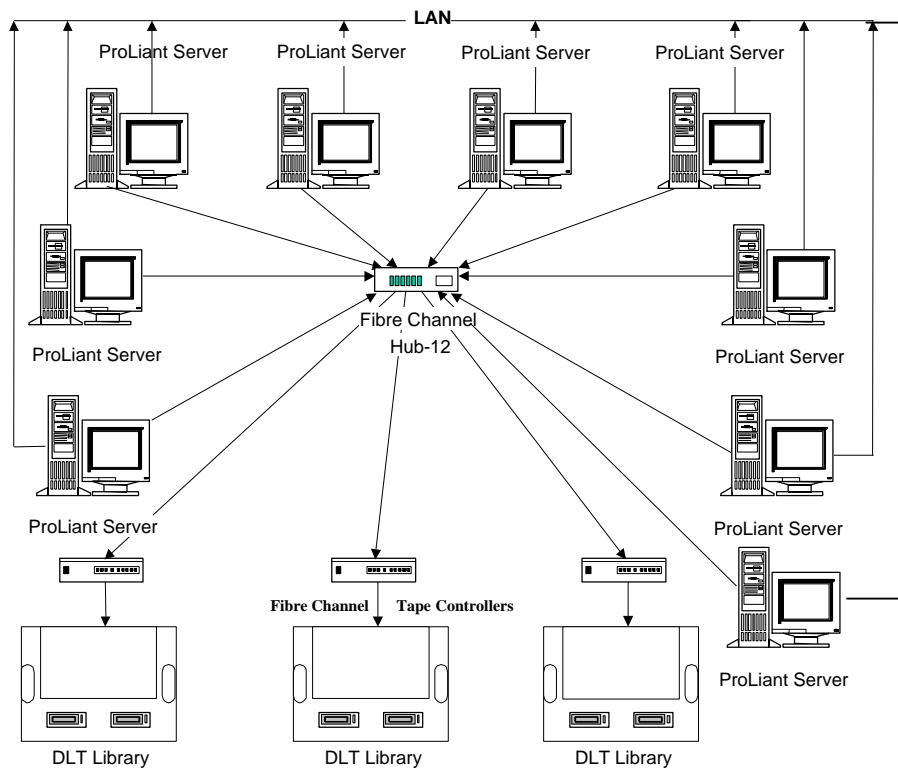

Figure 5-3. Maximum Configuration
The solution in Figure 5-3 supports a maximum of three Fibre Channel Tape Controllers, each connected to a DLT 3570 library. This configuration has enough ports remaining to connect to nine servers. A configuration with three DLT 3570 libraries should be targeted when high performance and/or high capacity is a requirement. Assuming 2:1 compression, three DLT 3570 libraries provide a maximum of 3 Terabytes (TB) of storage shared across nine servers. This is an average of 333 GB of tape storage per server connected to the Enterprise Storage Network.